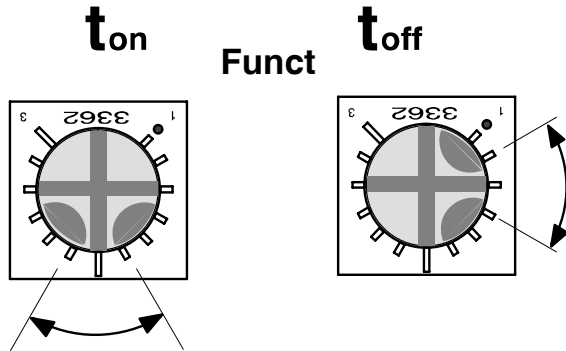

Abb. 67 Potentiometer setting
- Adjust switch-on time with potentiometer t_{on} assigned to DIP switches 1 to 3 (preliminary 15 seconds). Turn potentiometer fully ccw. The desired switch-on time of 15 seconds within the range setting of 1.5 to 30 seconds is approx. between 5 and 7 o'clock (Abb. 67). The exact position has to be found with a stop watch.
- Then adjust drain time with potentiometer t_{off} assigned to DIP switches 6 to 8 (6 seconds). Turn potentiometer fully ccw, then start turning cw. The desired switch-on time of 6 seconds within the range setting of 1.5 to 30 seconds is approx. between 2 and 4 o'clock (Abb. 67). The exact position has to be found with the stop watch.